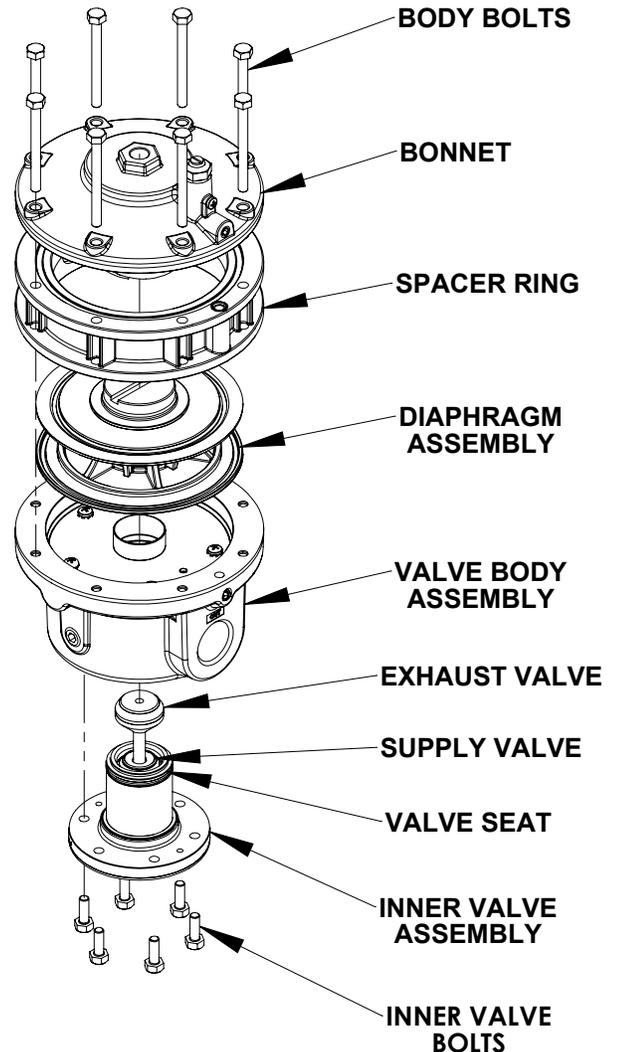

FIGURE 4. MODEL 4900A EXPLODED VIEW
2. Remove the six Bolts from the bottom of the unit. For more information, see Figure 4.
3. Remove the Inner Valve Assembly. The Valve Assembly will extract freely for about 1". The Assembly must then be pulled out of the Valve Body to unseat the Valve Seat. For more information, see Figure 4.
5. Lubricate the o-rings and replace the Valve Assembly carefully. Ensure that the Vent in the exterior part of the Inner Valve Assembly is clear. For more information, see Figure 4.